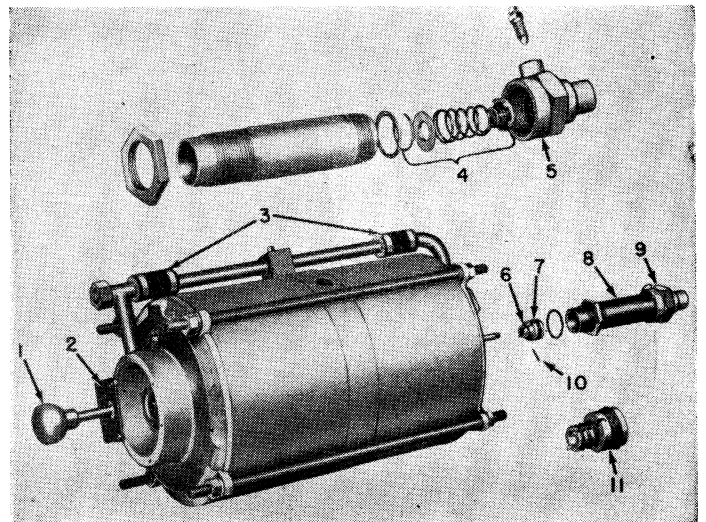

Fig. 67 Removal of hydraulic cylinder and piston
Fig. 67. Force vacuum cylinder pistons forward by inserting the special return spring compressing tool (1) through opening in end plate. Attach flange (2) of tool to end plate, using three of the valve cover screws. (Details for making tool shown in Fig. 68.) Loosen hydraulic cylinder check nut and remove cylinder (8). Remove hydraulic piston (7) from push rod by sliding snap ring (6) or push rod pin retaining spring back on piston, then remove retainer pin (10). Hold end cap (9) in vise and remove hydraulic cylinder. Disassemble residual line pressure check valve parts (4). Loosen vacuum hose clamps (3) and slide both hoses toward center of vacuum tube. Remove hydraulic by-pass tube (opposite side of Hydrovac from that illustrated).